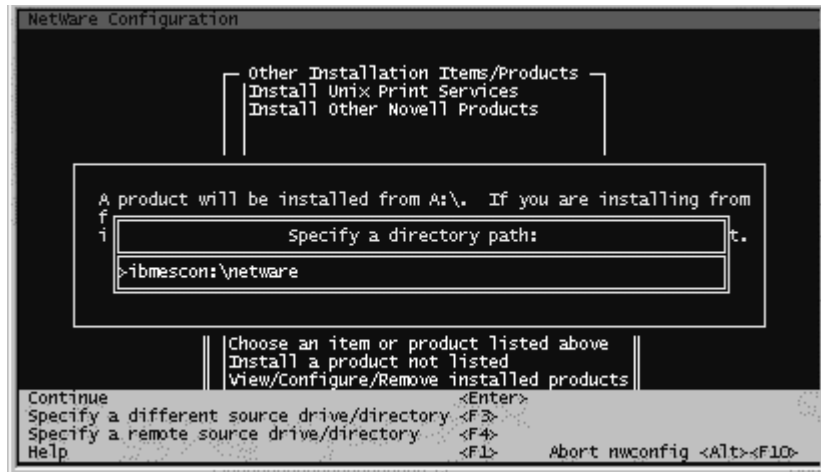

Figure 3-27. Specify a Directory Path
- A pop-up window appears prompting you for a directory path (Figure 3-27). Enter “ibmescon:\netware” where “ibmescon” is the volume ID of the installation CD.
- A pop-up window appears prompting you for a directory path (Figure 3-27). Enter "ibmescon:\netware" where "ibmescon" is the volume ID of the installation CD.